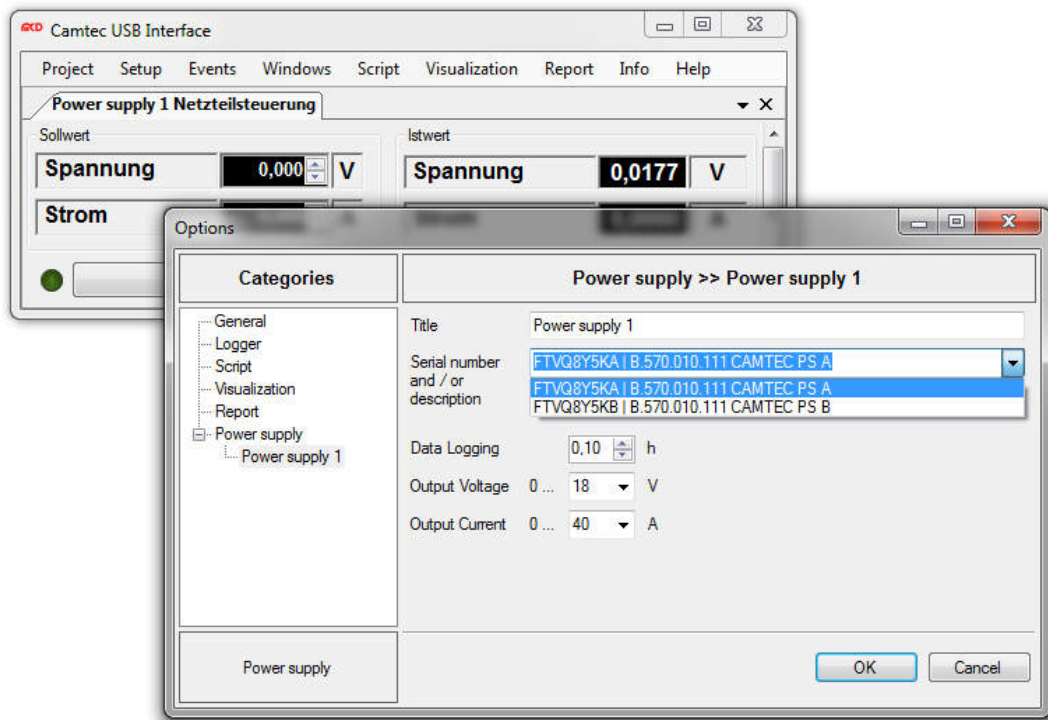

Figure 3 Setup -> Options, Ser.No. & data input of the power supply
3. If you have connected only one UI.Drive-Interface please delete a pre-set serial number accessing Setup -> Options -> Power Supply 1. If you have connected several UI.Drive-interfaces, please choose the Device A (Figure 3).
4. Set the voltage and current value to the maximum of the connected UIreg power supply type (Figure 3).